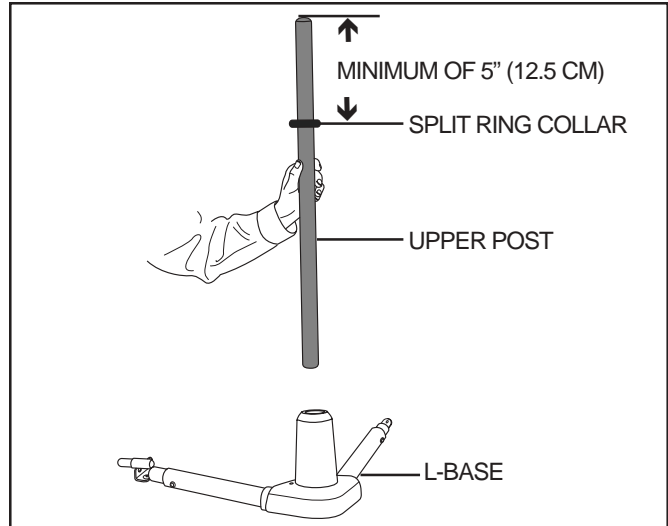

Figure 4. Upper Post Installation
1. Insert the upper post into the L-base. **See figure 4.**
3. Slide the split ring collar over the upper post and tighten both screws (a good starting point is approximately 12in. (30 cm). down from the top of the upper post). **See figure 4.** To ensure safe operation, the split ring collar must be secured no closer than 5 in. (12.5 cm) from the top of the upper post.